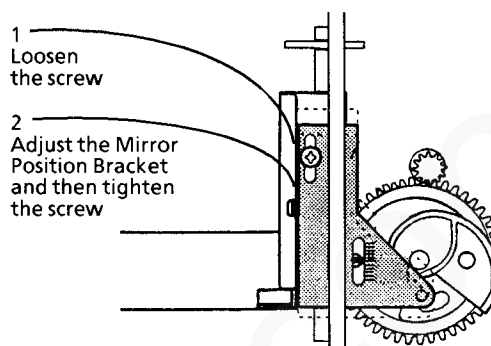

Figure 2. Adjusting the Resolution
4. Adjust the resolution (Figure 2).